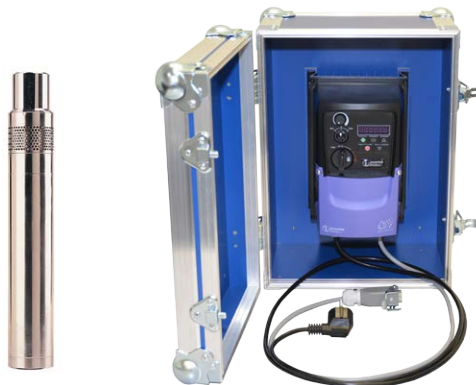

Fig. 1 Submersible pump Grundfos MP 1/Rediflo-2 and frequency converter
**The pump must always be powered via the converter. See fig. 1.**